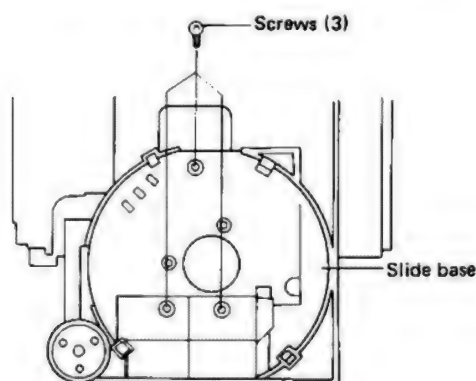

Fig. 5-7 Slide Base Removal
8. The slide base is removed after undoing screws 3 (See Fig. 5-7).